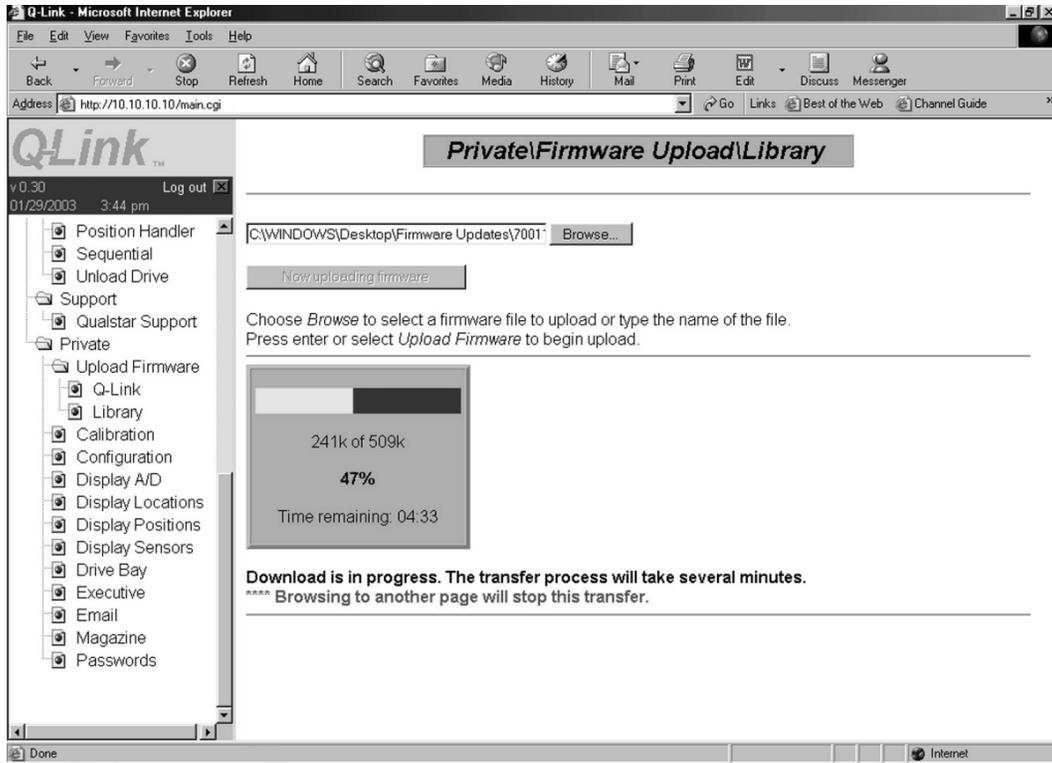
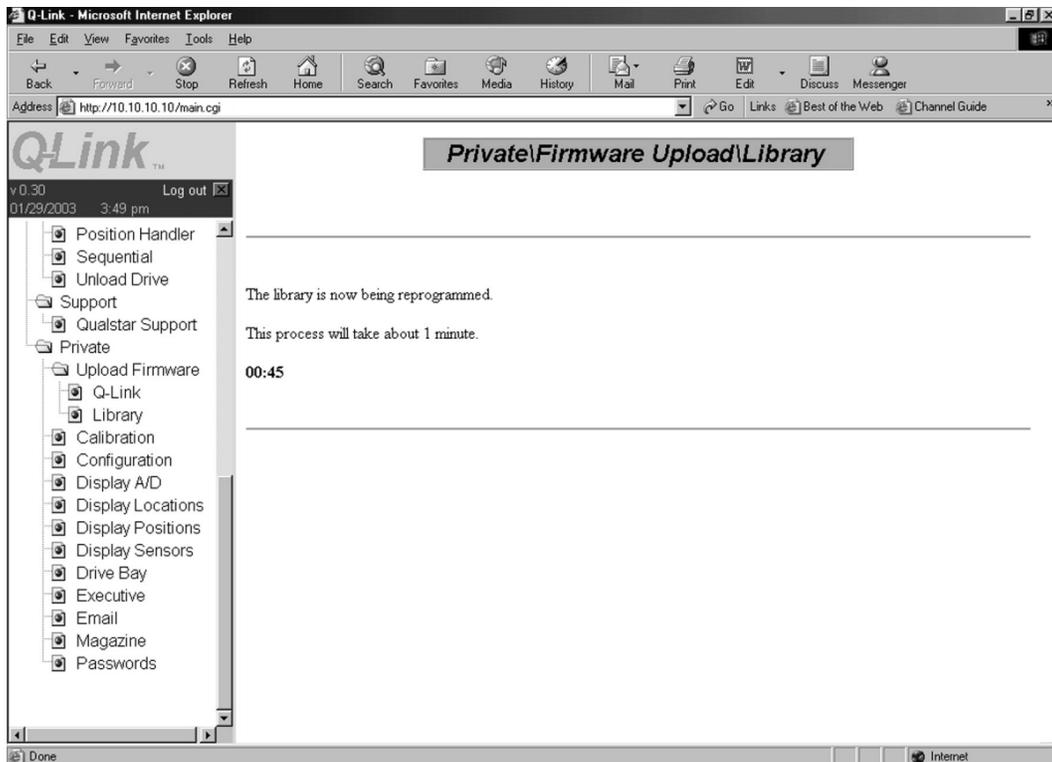

Figure 11-12 Sample of the Library Firmware Upload Progress Screen
Figure 11-13 Sample of the Library Firmware Reprogramming Progress Screen
4. Two different screens will appear as the uploading process proceeds. See Figure 11-12 and Figure 11-13.